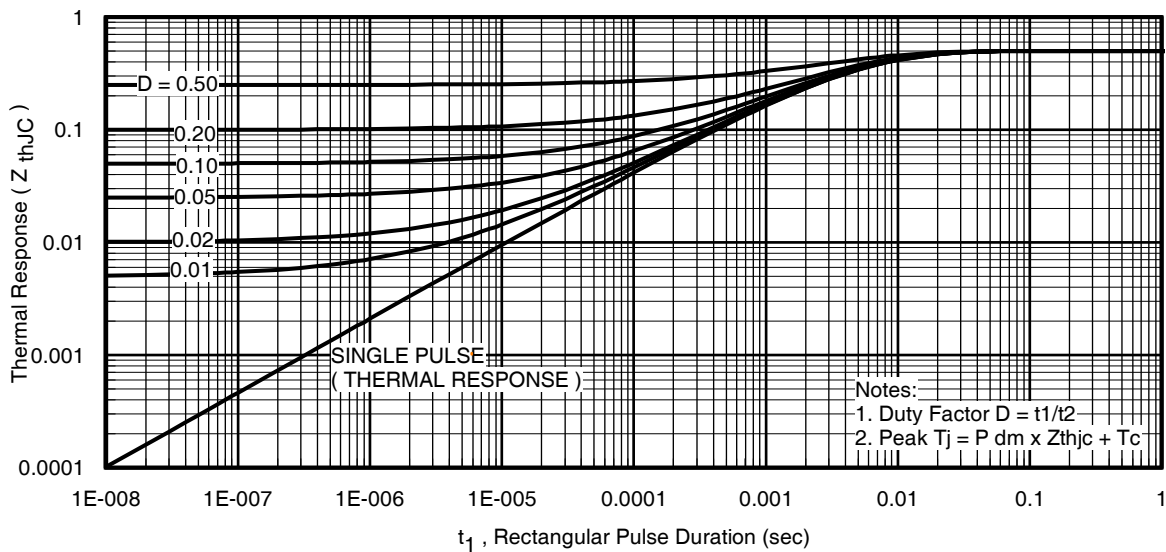

Fig 11. Maximum Effective Transient Thermal Impedance, Junction-to-Case
- ① Repetitive rating; pulse width limited by max. junction temperature. (See fig. 11).
- ② Limited by T_{Jmax} , starting $T_J = 25^\circ\text{C}$, $L=0.24\text{mH}, R_G = 25\Omega, I_{AS} = 75A, V_{GS} = 10V$. Part not recommended for use above this value.
- ③ $I_{SD} \leq 75A, di/dt \leq 220A/\mu s, V_{DD} \leq V_{(BR)DSS}, T_J \leq 175^\circ\text{C}$.
- ④ Pulse width $\leq 1.0\text{ms}$; duty cycle $\leq 2\%$.
- ⑤ $C_{oss \text{ eff.}}$ is a fixed capacitance that gives the same charging time as C_{oss} while V_{DS} is rising from 0 to 80% V_{DSS} .
$Z_{thJC}(D, t_{av})$ = Transient thermal resistance, see figure 11)